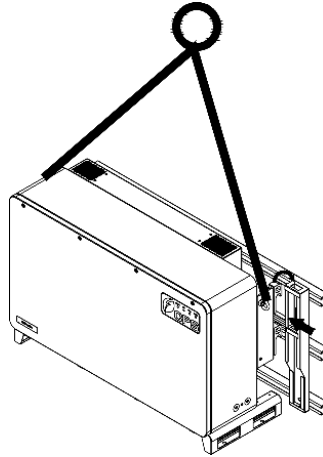

Figure 3-7 Lifting sling
- A. Lift mounting: screw two M10 lifting eyebolts to the studs at the top of the inverter. Use sling rope or bar (inserted through both lifting eyebolts) to lift the inverter onto the mounting bracket. The minimum angle between the two sling ropes should be less than 90 degrees, as shown in Figure 3-7.